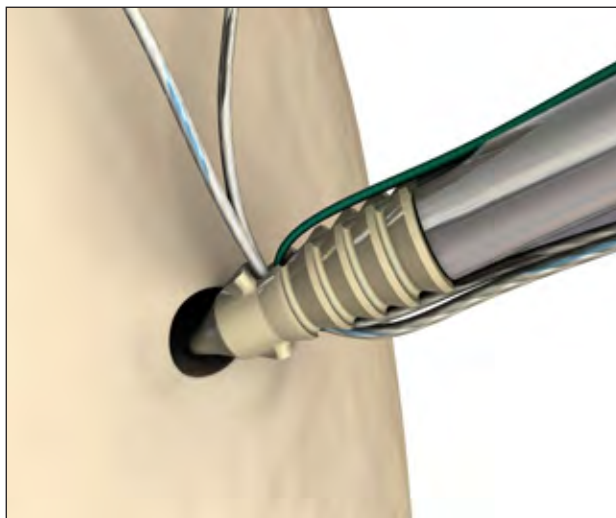

Figure 7
7. Orient the anchor so that the medial suture limbs entering the anchor are facing the tissue and the sutures are not twisted around the anchor (Figure 7).